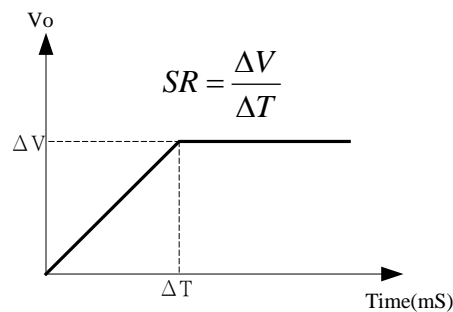

Figure 3-9
2. Select the V slew rate corresponding space to set the value. The output voltage slew rate of the DC power supply is set as follows. The maximum input Slew Rate is 60V/ms and the minimum is 0.001V/ms. The output of DC power supply will follow the slew rate to rise to the set output voltage while the fall slew rate is limited by load. (See Figure 3-9 for the calculation formula.)